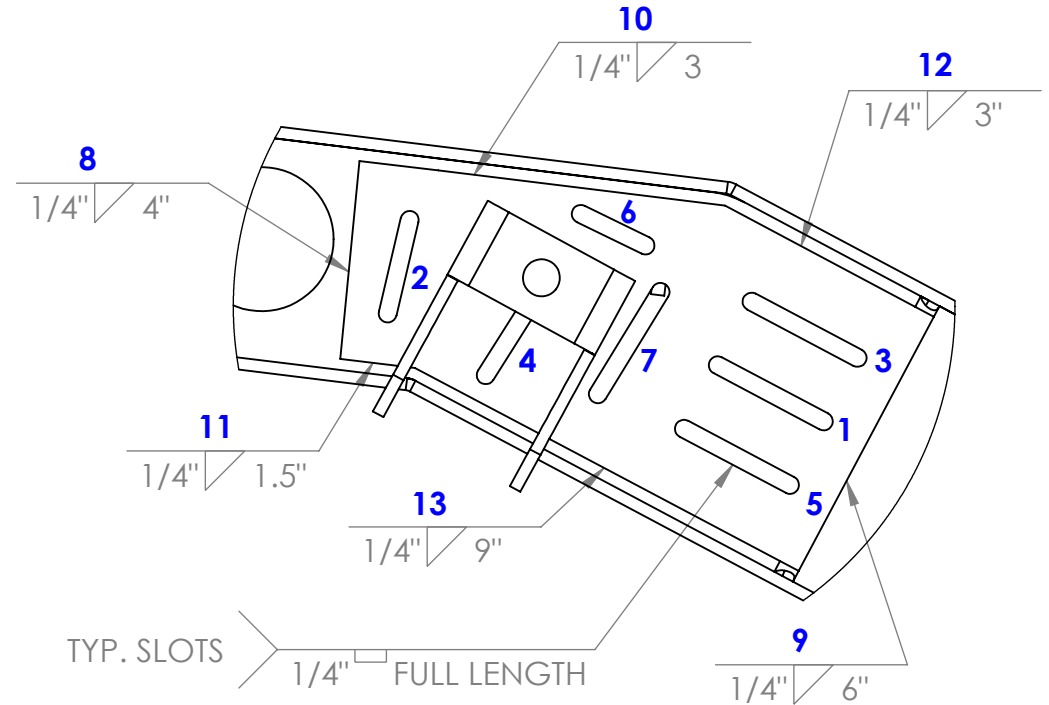

FIGURE 1: WELD PATTERN
- WITH BRACKET FLAT AGAINST FRAME, CLAMP AND WELD AS SHOWN IN FIGURE 1.